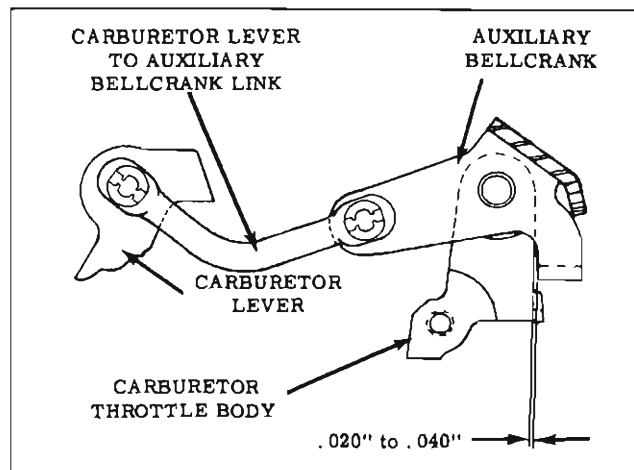
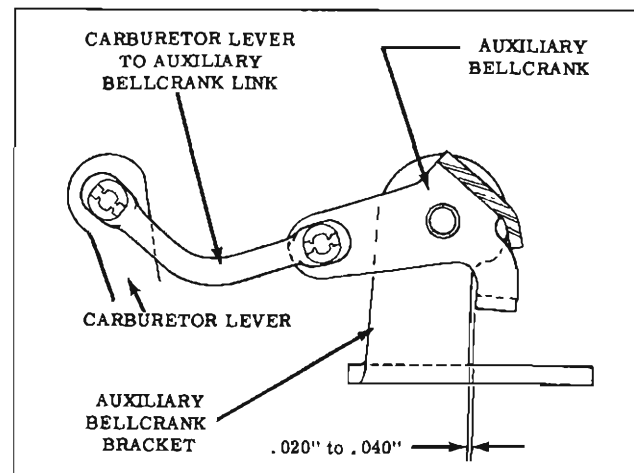

Fig. 6-126 Checking Carburetor Link (4 Bbl.)
Fig. 6-127 Checking Carburetor Link (2 Bbl.)
- a. Measure clearance as shown in Fig. 6-126 (four barrel) or Fig. 6-127 (two barrel) with feeler gauge. To obtain proper clearance of .020" to .040" remove link "C" and bend. Reinstall link and recheck clearance. Link can be installed up or down.